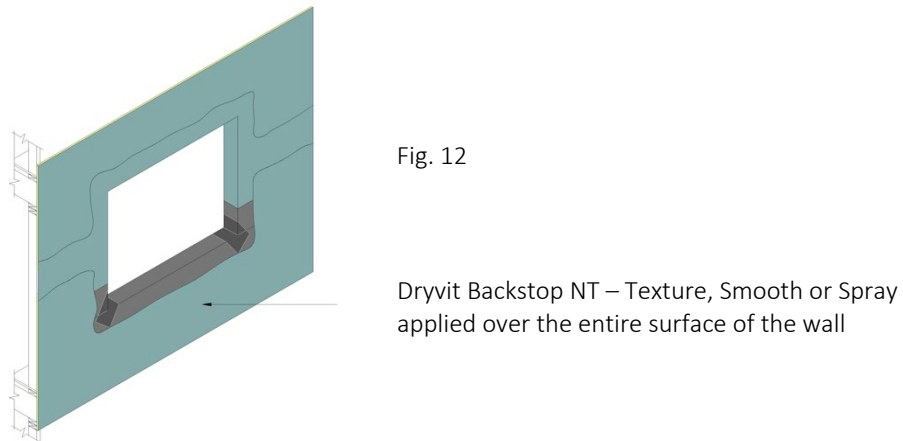

Fig. 12
- 4) Install the specified component (i.e. window, etc.) and associated flashings per manufacturer's directions and contract documents. Then apply Backstop NT – Texture, Smooth or Spray to the remainder of the wall surface as described in Section VI and lap over the previously installed material (do not lap over Flashing Tape if specified) around openings – Figure 12.